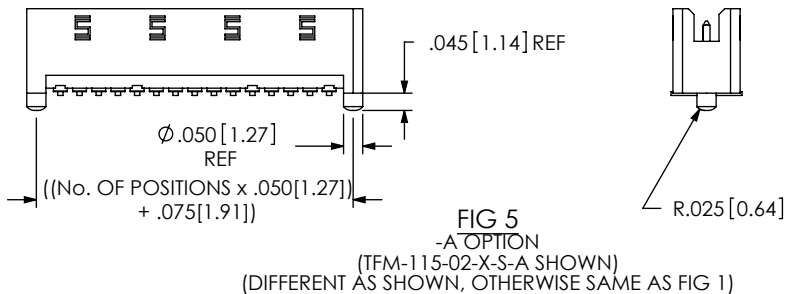

FIG 5
-A: ALIGNMENT PIN (USE TFM-XX-S-01-A) (NOT AVAILABLE WITH -WT OPTION) (SEE FIG 5, SHEET 2)